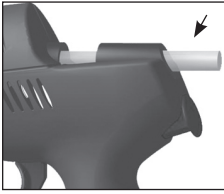

Figure 3
1. Insert a glue stick into inlet tube (Figure 3).